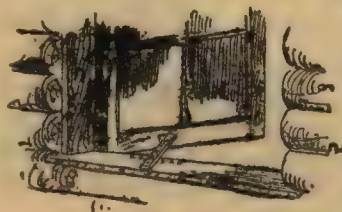

FIG. 27.
**WINDOW HINGES AND FASTENERS.**—Strong pieces of leather, such as old boot tops, will make good window hinges; but, of course, iron hinges are better. Swing windows hinged in this way should have a hardwood bar to hold them open at particular angles (Fig. 27). The bar should be about one inch square, hinged at one end of the sash; the other end should have holes bored through it to fit over iron pins placed on the sill of the window. A hook and staple or leather hasp is needed to hold the sash shut. The ordinary sliding sash needs only a button to keep it closed; but if it slides up and down, several will be needed to hold it open at various positions.